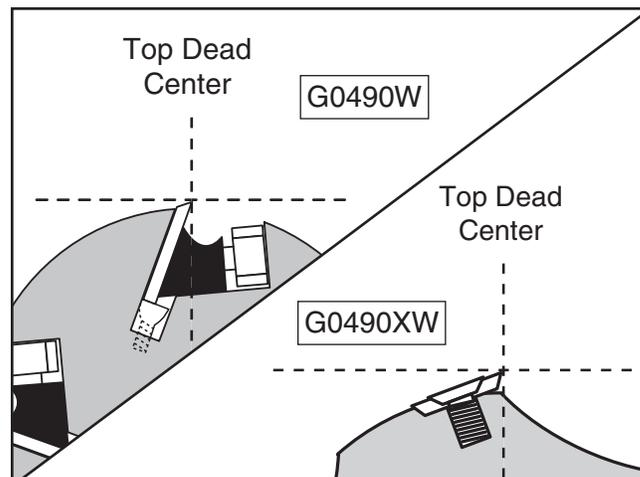

Figure 78. Knife or insert at top dead center.
6. Use motor pulley to rotate cutterhead until one of the knives or inserts is at top dead center (its highest point during rotation), as illustrated in **Figures 78–79**.